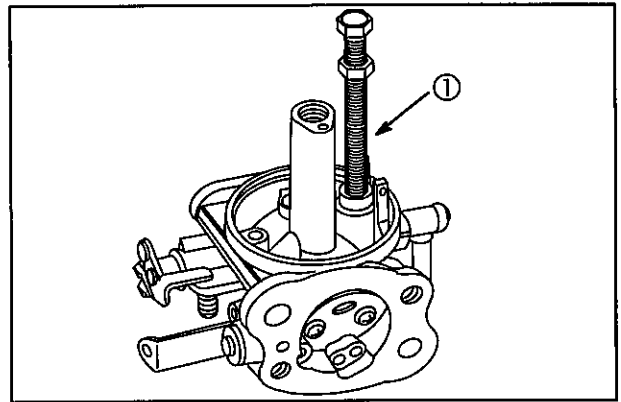

Fig. 49
1. Use Screw #93029 (1) from Flywheel Puller, #19165. Thread screw into seat body 3 - 4 turns, **Fig. 49**. Remove the screw from the seat body.